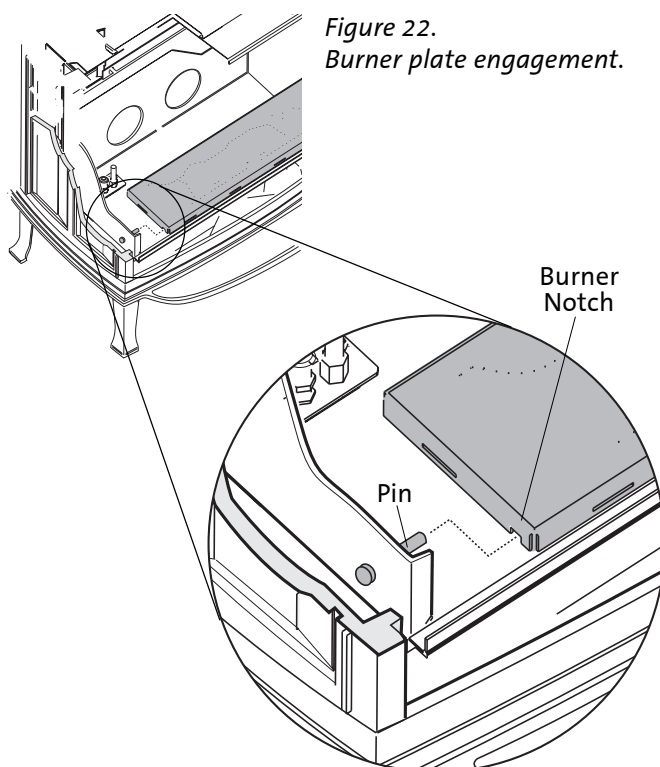

Figure 22.
14. **Reassemble the stove. CAUTION: Correct Burner position is critical to proper function.** Be certain that the burner plate is properly engaged with the pins on the firebox walls. The pins fit into the adjacent notches on the sides of the burner plate. See figure 22.